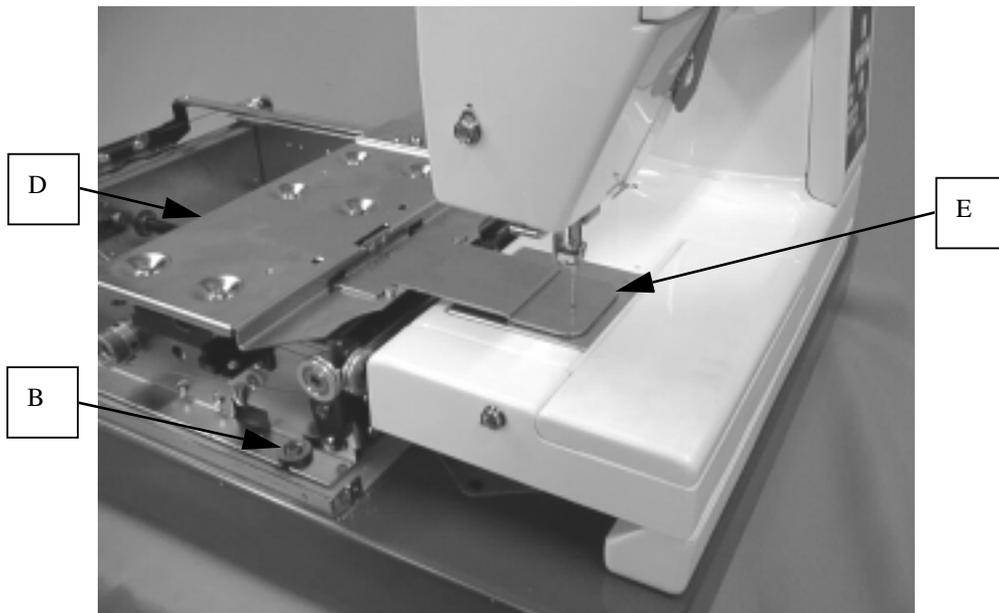

FIGURE 8-5
7. Mount carriage (unit) (D), and set the positioning jig (E) to the carriage (unit). (The positioning jig is the same as the one for EP1) Fig.8-5
9. Adjust the X-Y mechanism while moving it so that the needle is inserted into the hole of jig (E) as shown in Fig.8-5, and tighten setscrews (B).